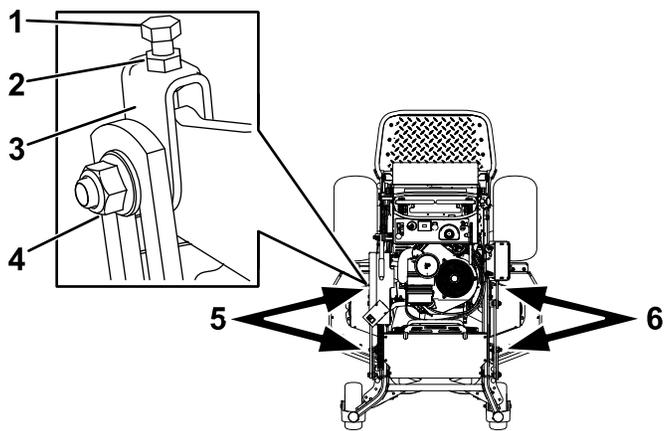

Figure 95
1. Loosen the side nut and jam nut in the yokes you want to adjust (Figure 95).
2. Rotate the top bolt of the yokes to adjust the height of the mower deck (Figure 95).